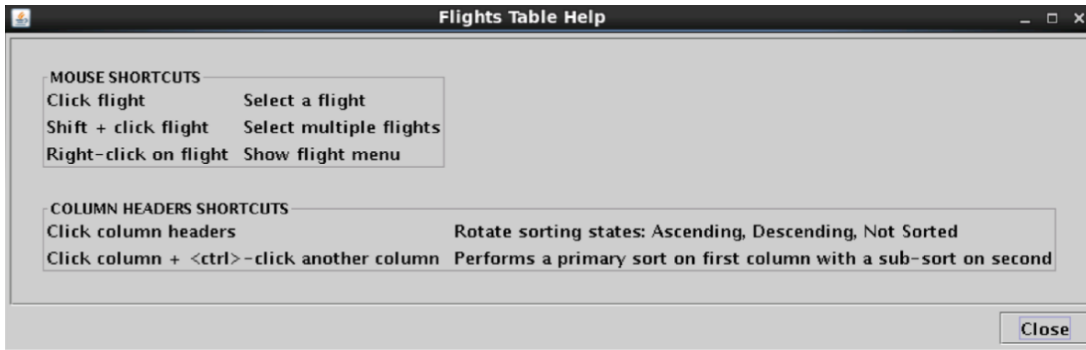

Figure 33. Flights Table Help window.
**Step 2:** Click on “Flights Table Help.” A window appears with a list of keyboard and mouse shortcuts for various Flights Table functions (Figure 33).